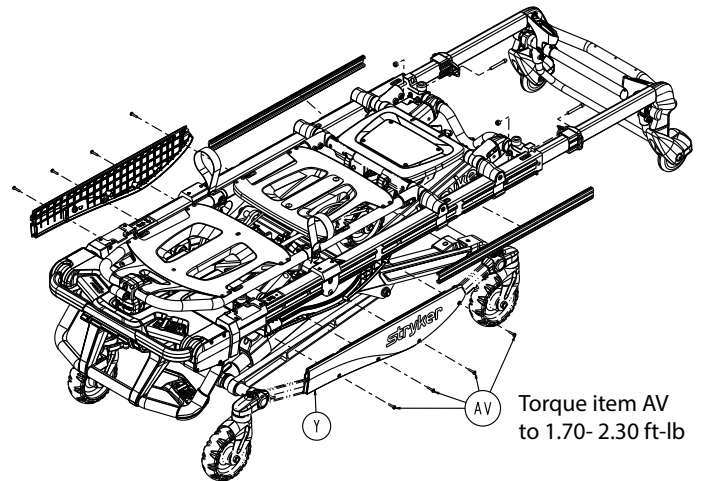

Figure 109 – Remove the slider block cover screws
10. Using a T25 Torx driver, remove the four round washer head tapping screws (AV) that secure the slider block cover (Y) to the slider block (Figure 109). Save the screws.